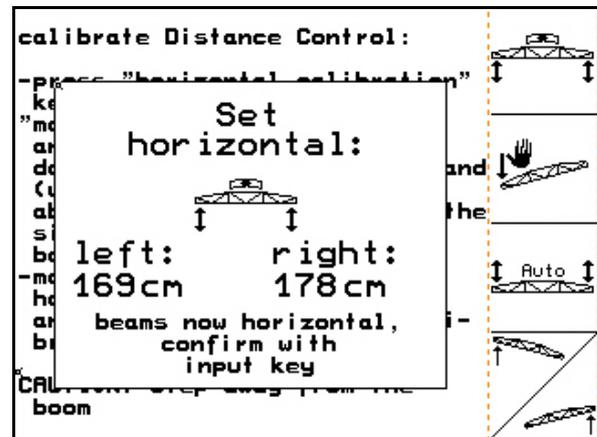

Fig. 30
4. Orient boom horizontally. The current height of both sensors is displayed at all times (Fig. 30).